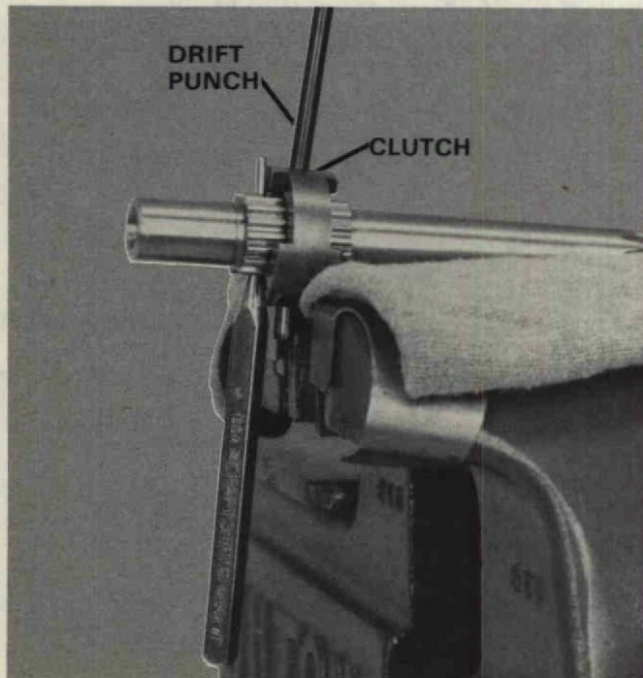

Figure 26. Removing Clutch.
This procedure prevents damage to ends of clutch slots when removing spring pin from clutch. Figure 26.
- D. Drive spring pin from clutch using pin remover. Special Tool No. T 8919. Figure 26.